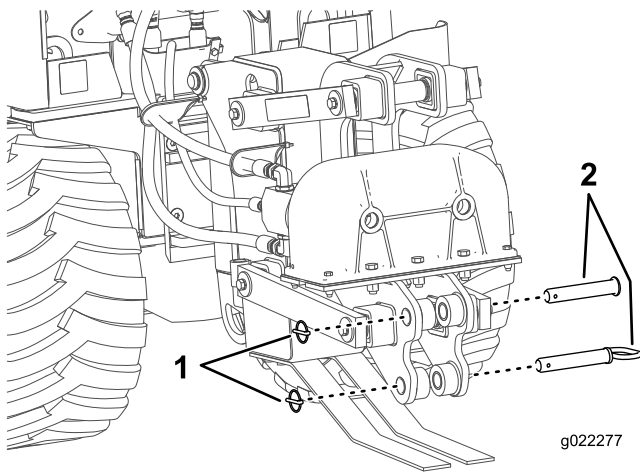

Figure 17
- Flip the 2 circular snap rings over and remove the snap-ring pin (Figure 17).